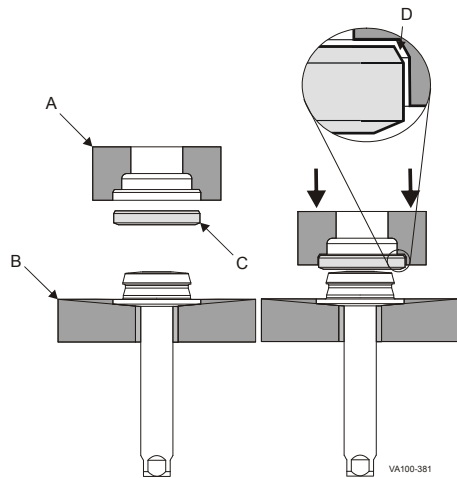
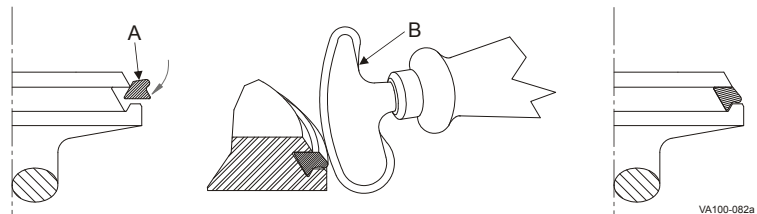

Figure 29: Tef-Flow™ P Seat
Figure 30: Installing New Tri Ring Seat
5. Start the Tri Ring as shown in Figure 29.
6. Using the installation tool, part number 102797+ (Figure 29, item B), press the Tri Ring into the plug at locations A, B, C, and D (Figure 30). If this tool is not available, a dull, flat tool can be used. DO NOT use a knife or any other sharp item that will tear or cut the Tri Ring.
8. When properly installed, the Tri Ring seat lip will protrude slightly from the seat edge as shown in Figure 29.